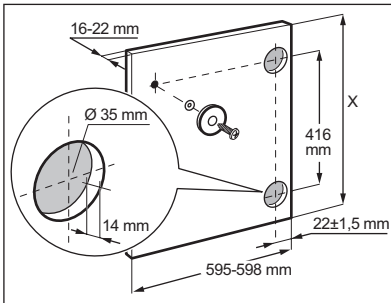

Fig. 3
- the height **X** depends on the height of the adjacent furniture's base (Fig. 3).